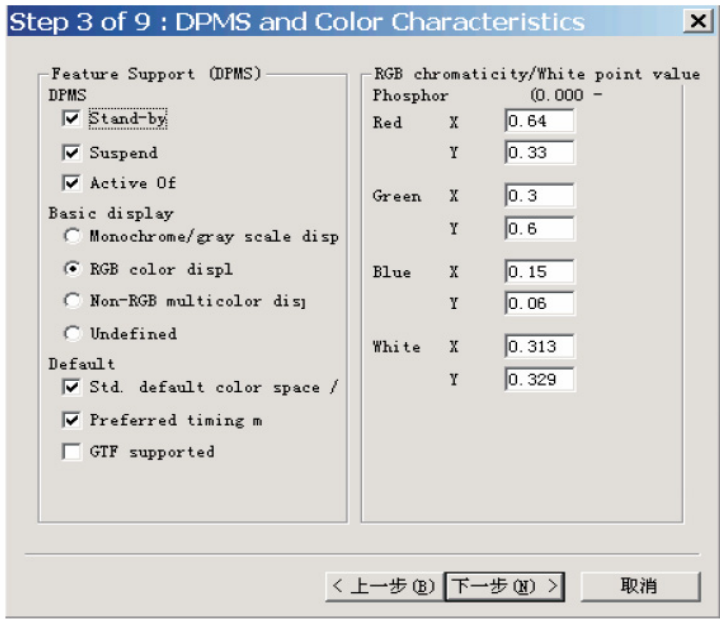

Fig. 16
2. Click Next , bring up Fig.16.